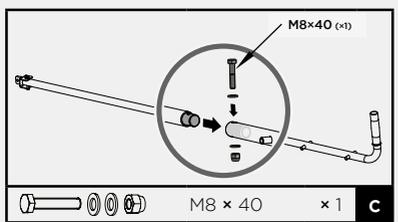

Figure 12
3. Insert the shorter control lever into the longer lever. Align holes and fasten with M8×40 hex bolt, washers and nut (figure 12).